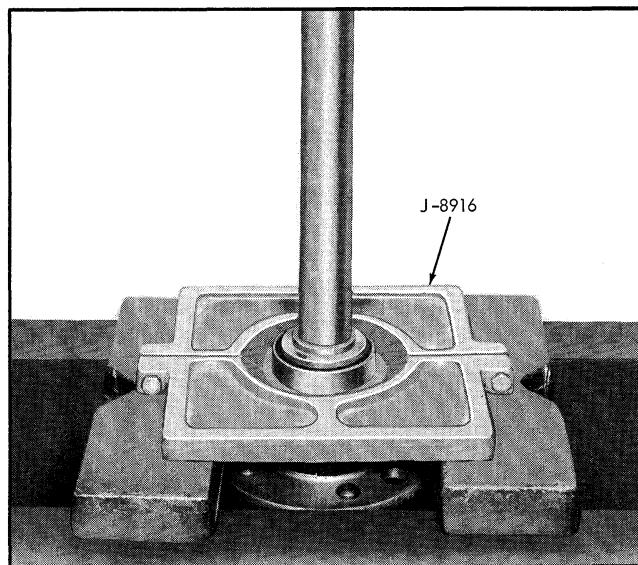

Fig. 4-11 Removing Axle Shaft Bearing and Inner Retainer
1. Press axle shaft bearing and inner retainer off using split plate J-8916-1 (Fig. 4-11).